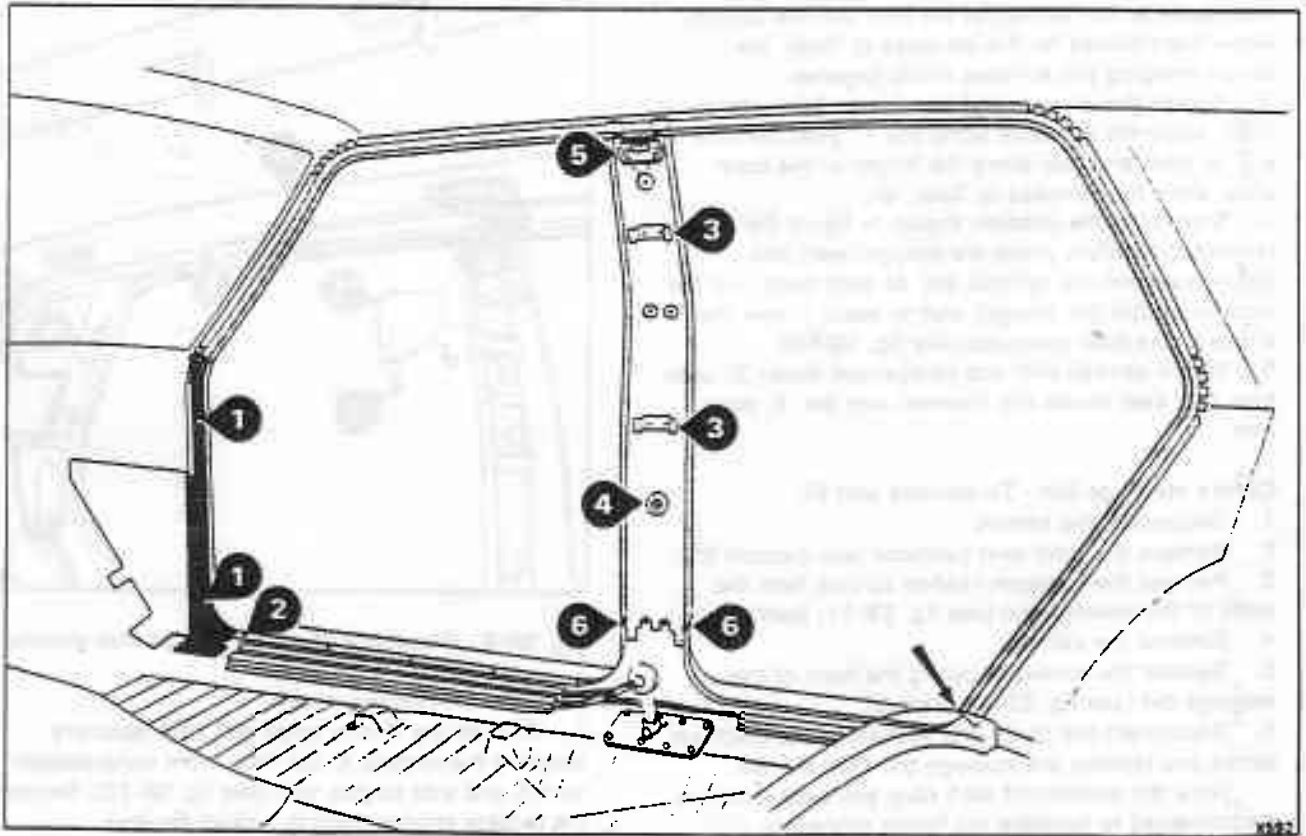

Fig. S8-10 Draught welts
5. Unscrew and remove the lower 'A' post trim panel (see fig. S8-10, item 1).
6. Remove the front screw of the front sill finisher to enable the draught welt to be released (see fig. S8-10, item 2).
8. To remove the draught welt from the 'BC' post, it will first be necessary to remove the seat belts and their retaining slides (see Section S6). Release the brackets (see fig. S8-10, item 3), then remove the screw (item 4) and washer.
9. Remove the retaining clips from the bottom of the draught welt (see fig. S8-10, item 6), peel back the top of the trim and remove.
4. Starting at the position shown in figure S8-10 (arrowed), carefully press the draught welt into position around the cantrail, etc. At each bend, cut the cloth to enable the draught welt to easily follow the shape of the door apertures (see fig. S8-10).